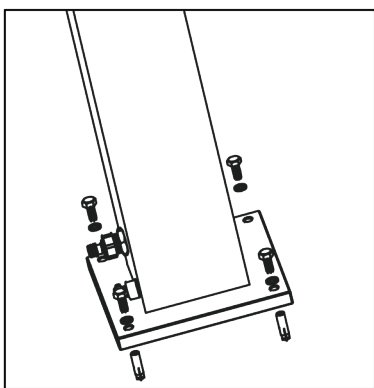

Figure 3
2.2 Use the base plate/PVC tube to mark the position of the mounting holes to be drilled into concrete/masonry for bolts (Figure 3).
NOTE: Make certain that stainless steel tube assembly is tightened securely and in place (Figure 3).